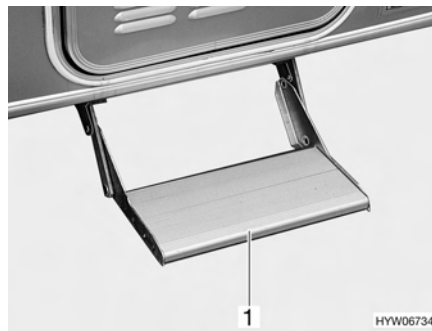

Fig. 10 Entrance step (fitted)
- Grasp the entrance step (Fig. 10,1) from below and pull it out until it locks into place.
- Grasp the entrance step (Fig. 10,1) from below and lift it slightly.